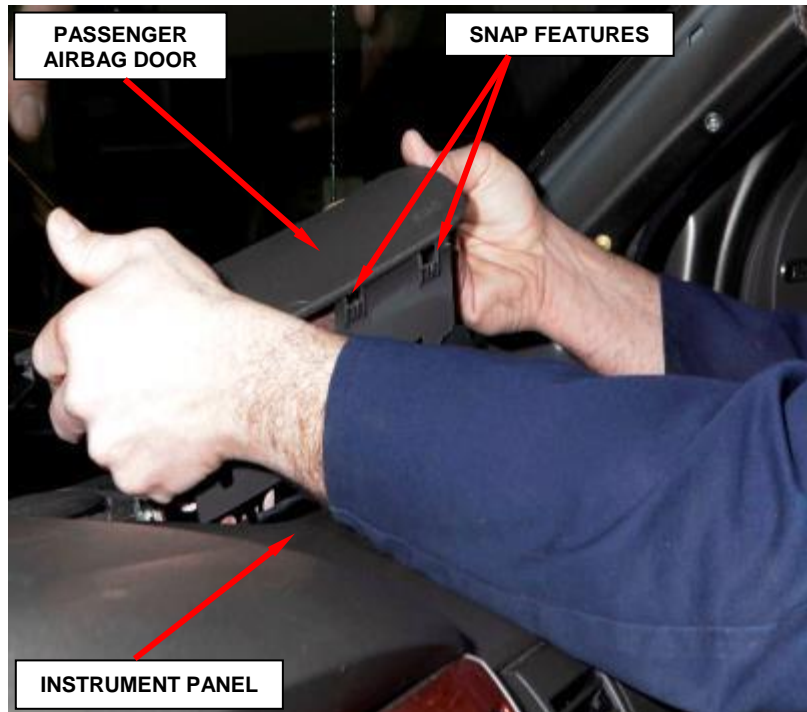

Figure 43 – Passenger Airbag Door
5. Using a trim stick or another suitable wide flat bladed tool, gently pry the forward and side edges of the passenger airbag door away from the top of the instrument panel far enough to disengage the snap features on the airbag door from the receptacles in the instrument panel top pad (Figure 43).